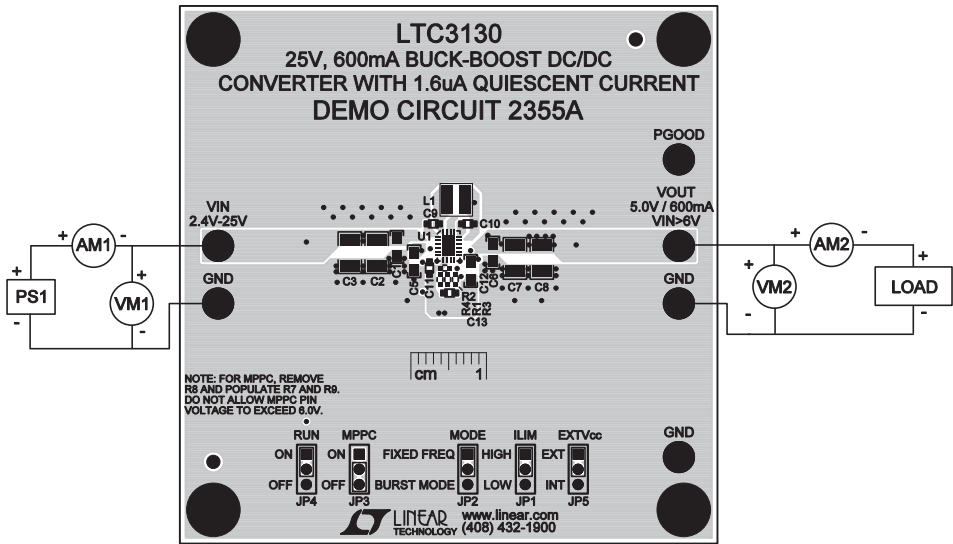

Figure 4. Proper Measurement Equipment Setup
Using short twisted pair leads for any power connections and with all loads and power supplies off, refer to Figure 4 for the proper measurement and equipment setup. The power supply (PS1) should not be connected to the circuit until told to do so in the procedure below.
2. With power OFF connect the power supply (PS1) as shown in Figure 4. If accurate current measurements are desired (for efficiency calculation for example) then connect ammeters in series with supplies as shown. The ammeters are not required however.
3. Connect a 500mA load ( $10\Omega$ ) to  $V_{OUT}$  as shown in Figure 4.